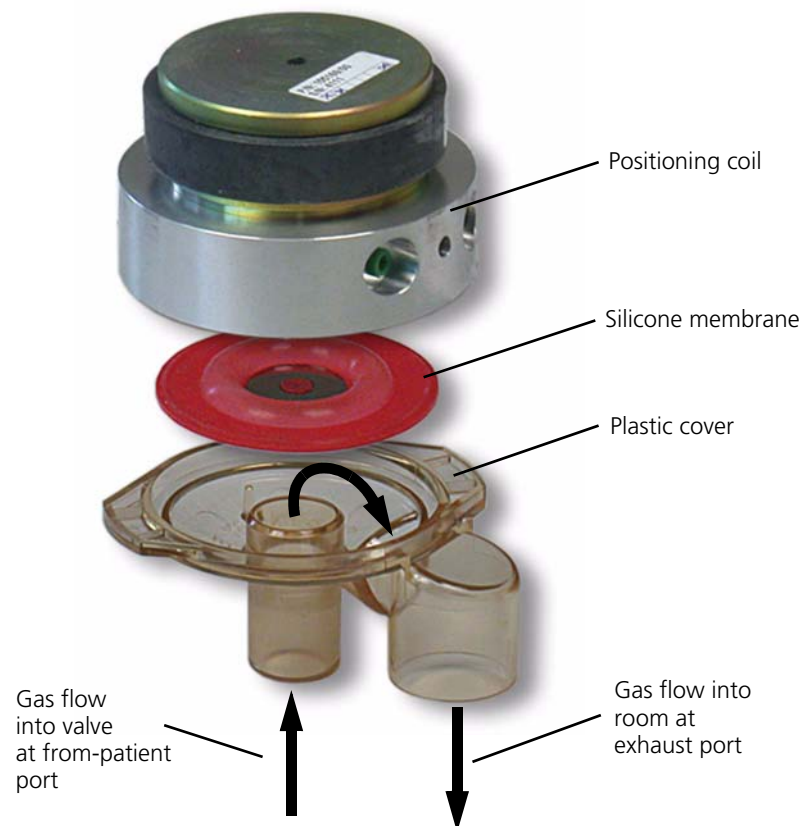

Figure 11-71. The expiratory valve
The expiratory valve (Figure 11-71) comprises:
- **When attaching the silicone membrane, make sure it is positioned as shown in Figure 11-71 on page 11-66.**